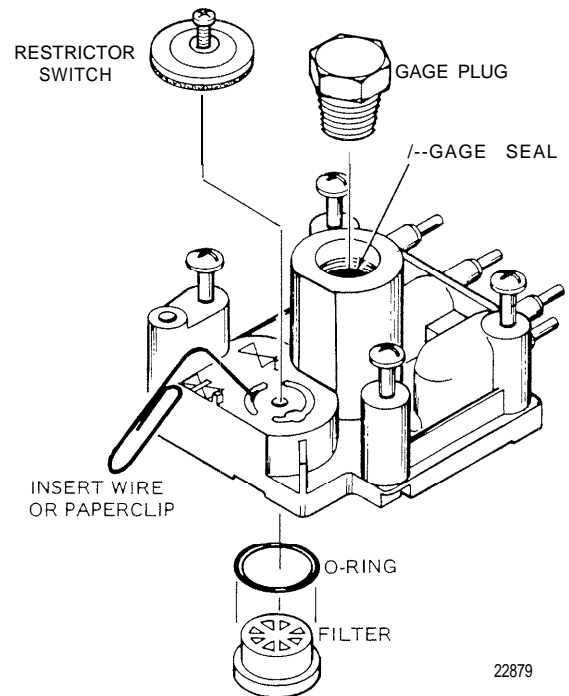

Fig. 20. Filter/O-Ring, Gage Seal Replacement Diagram.
3. Remove the screw and restrictor switch (Fig. 20).
4. Using a wire or large paper clip, push through the hole (Fig. 20). The filter and O-ring will fall out.
1. Remove the gage or gage plug (Fig. 20) from the connector block module or switch block module.